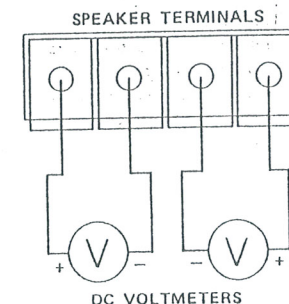

Fig. 18
A. Connect one DC voltmeter to the left and one to the right channel of the SPEAKER terminals. (See Fig. 18)